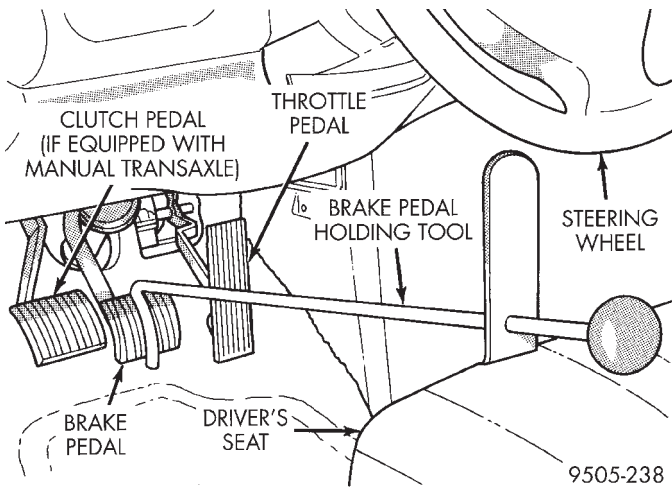

Fig. 12 Brake Pedal Holding Tool Installed
(3) Using a brake pedal positioning tool such as shown in (Fig. 12) depress brake pedal past its first 1 inch of travel and hold in this position. This will iso-